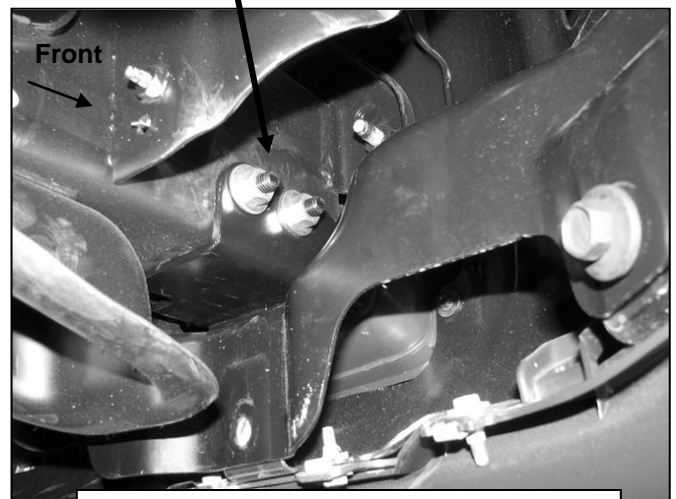

**Fig 6**
- c. Select (1) Frame Bracket, **(Figure 6)**. Insert the Bracket through the opening in the plastic bumper, **(Figures 4 & 5)**. Line up the (3) holes in the Bracket with the holes in the end of the frame channel.